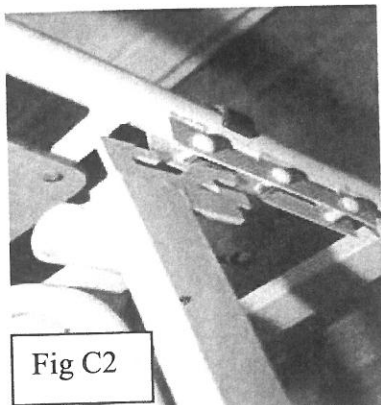

Fig C2
Head and foot boards are connected to the storage unit with grey **D** ring clips that rotate round the leg of the bed end to locate the hooks on the unit, release these clips to allow each head board to come away from unit. (Fig C2)
- Hold the headboard raise the platform and locate the hooks on the platform on the desired setting, turn locking clips to secure platform to headboard. Repeat this process with the foot end headboard. (Fig C2)